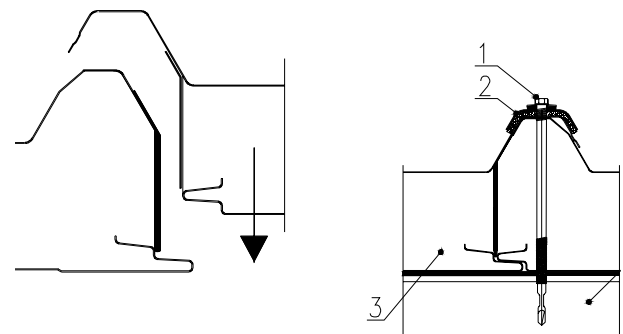

fig. 6
**c.** IzoRoof roof sandwich panels should be fixed only through the raised profile using saddle washer recommended by Izopanel (Fig.6). Fixing the roof panels to support construction between the raised profiles (in large valleys where the rainwater is draining down the slope) is not permitted due to the risk of eaks.